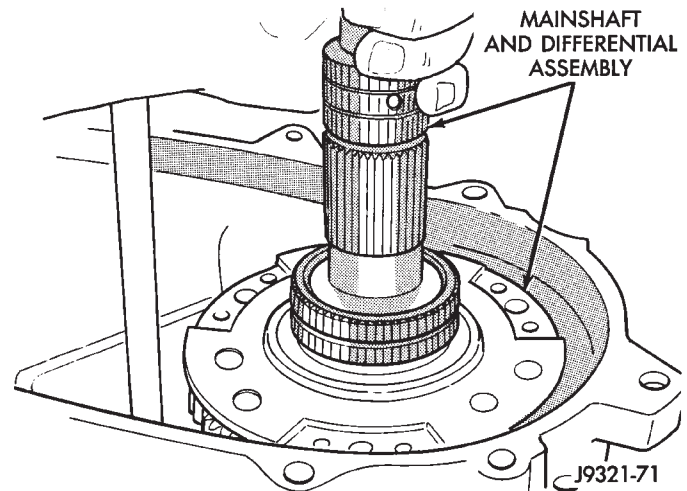

Fig. 80 Installing Mainshaft And Differential Assembly
(18) Install assembled mainshaft and differential in low range gear and clutch gears (Fig. 80).